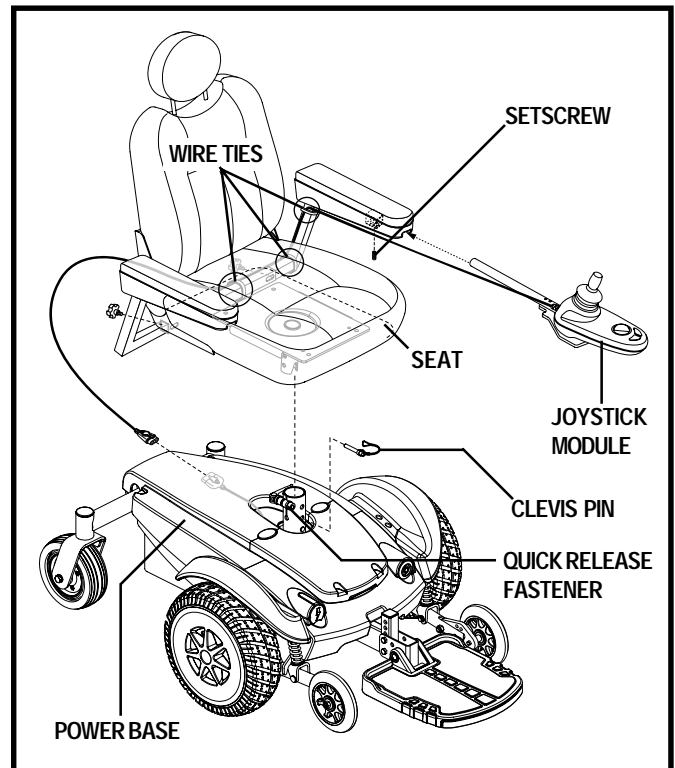

Figure 10. Seat and Controller Assembly
1. Slide the seat down onto the power base. See figure 10.
3. Install the joystick module into one of the armrests. Tighten the setscrew with the supplied hex key. See figure 10.
4. Route the joystick module cable as shown and secure with wire-ties. See figure 10.
10. Route the joystick module cable along the seat frame and secure with wire ties. See figure 10.